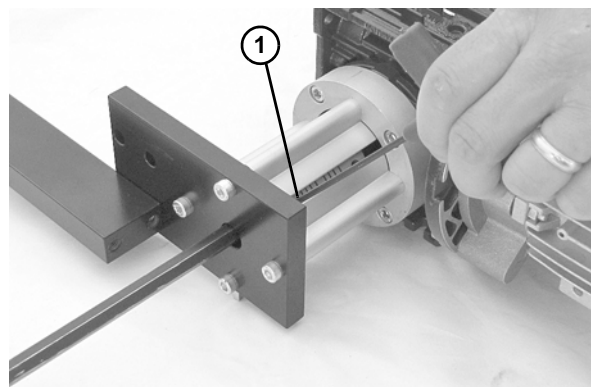

Figure 13
- Tighten coupling set screws to 32 in-lb (3.7 Nm) (Figure 13, item 1).